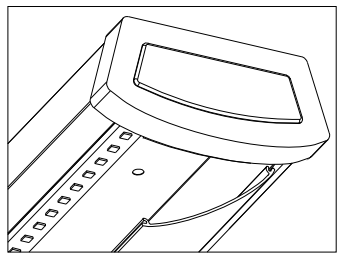

Figure 2
6. Hold Fixture Housing (2) in one hand and with the other hand position wires up into junction box.
8. To install diffuser (4) - starting at one end of housing, insert diffuser slot onto edge of housing- See Fig. 2. Carefully squeeze diffuser to engage opposite side with housing. Continue this action down length of diffuser until fully installed onto housing.